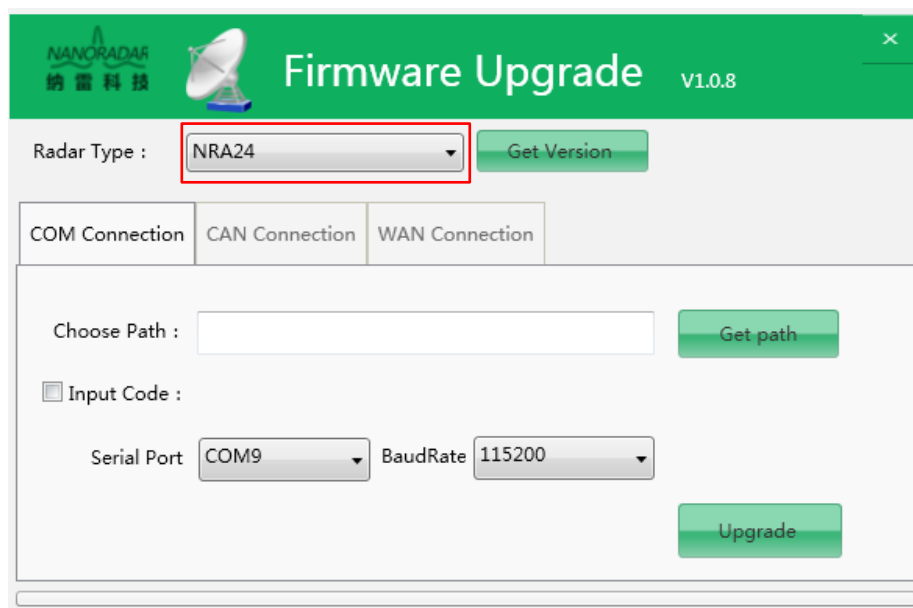

Figure 13 Select COM radar
a) Firstly, select the upgrade radar which use COM port ,for example NRA24,as shown in figure 13.